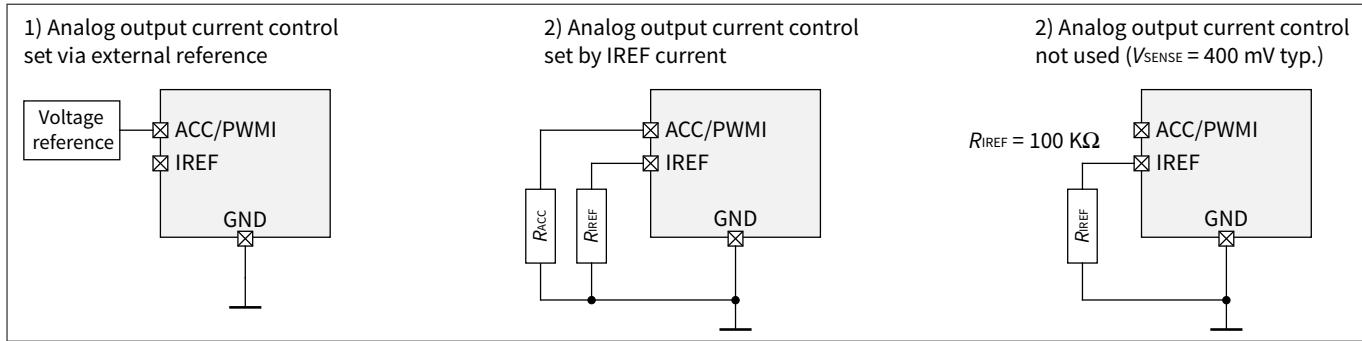

Figure 16 Analog output current control configurations
- If the ACC is connected to a voltage reference with low output impedance, as shown in Figure 16(1), the voltage VACC, is equal to the voltage reference. As it is expected, in this case it is not necessary to connect a resistor to the IREF pin
- If the ACC is connected to digital/analog dimming, as shown in Figure 16(2), the IREF pin provides current to the ACC/PWMI pin set by a resistor. The voltage on the VACC/PWMI on this board is equal to:
- If the analog or digital current control is not needed, the ACC/PWMI pin stays open, as shown in Figure 16(3), then connect a high resistance to the IREF pin. In this way, the voltage on the ACC/PWMI pin reaches its maximum possible voltage